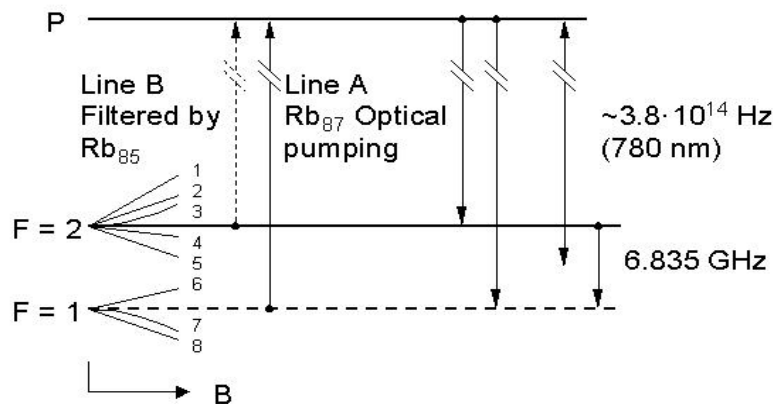

Figure 2 Energy levels and transitions in Rb87 atoms during GRCLK-1500 operation.
In order to detect the clock transition between these two levels, the atoms need to be manipulated in such a way that most of them occur in only one level. This is done by optical pumping via a higher lying state (P). Figure 2 visualizes the atomic energy levels and transitions involved in the optical pumping process.